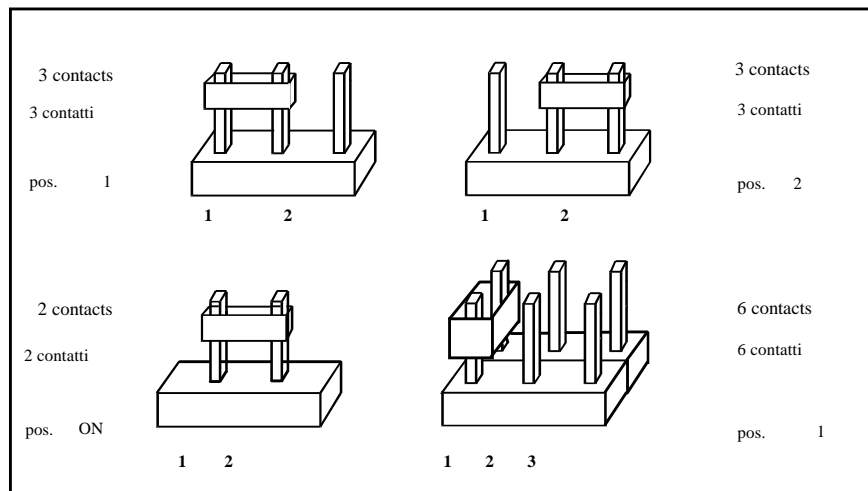

fig. 18
This paragraph describes the preset functions of the programming **jumpers**; the jumpers used on the card are of the following types - **2, 3, 6** and **10 contacts** (see **fig. 18**).
For **6** contact jumpers (**J5** and **J14**), there are **3** selection types (pos.1, 2, 3); **fig. 18** shows position 1.